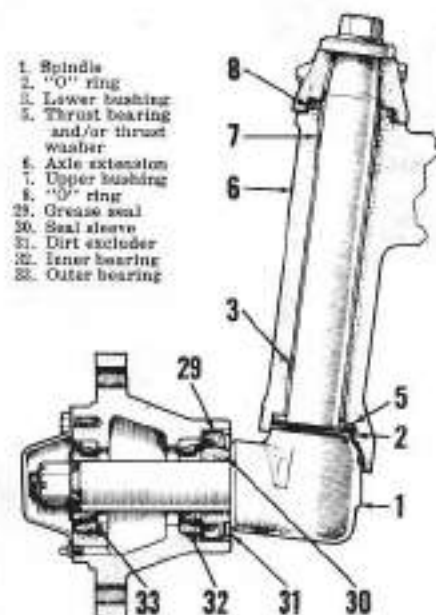

Fig. 1—Cross-sectional view of typical front wheel spindle, hub and bearing assembly. Note that lip of seal (29) is installed out (away from inner bearing).
1. Typical front wheel spindle, wheel hub and bearing assembly is shown in Fig. 1.